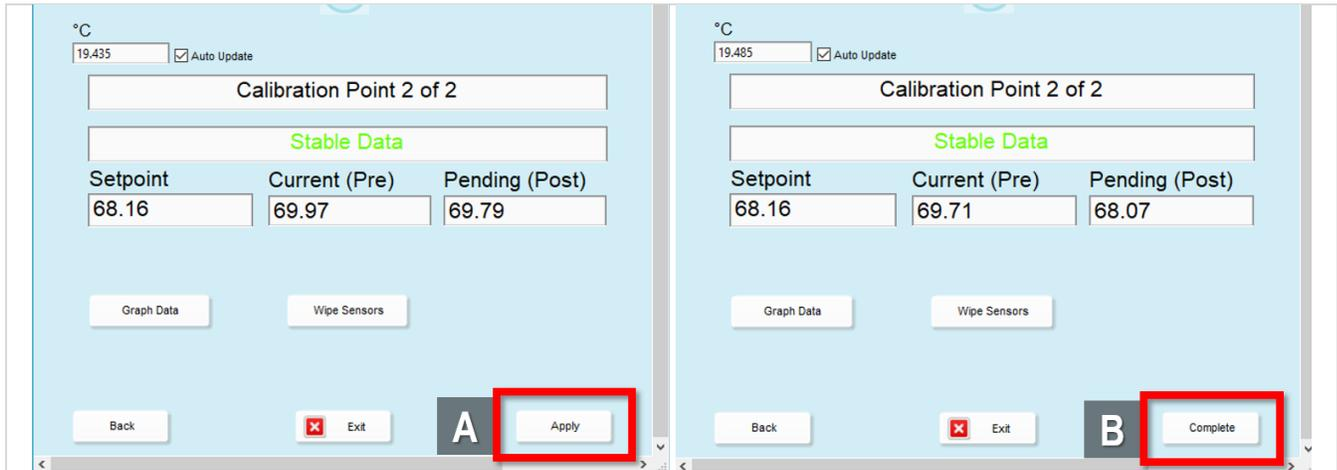

Figure 111. Click "Apply" and then "Complete" when the Data are Stable for the Chlorophyll Sensor
**STEP 7** | When the window displays Stable Data in green, select the option to “**Apply**” (A in Figure 111). Then click “**Complete**” (B in Figure 111) to complete the second calibration point for this sensor.